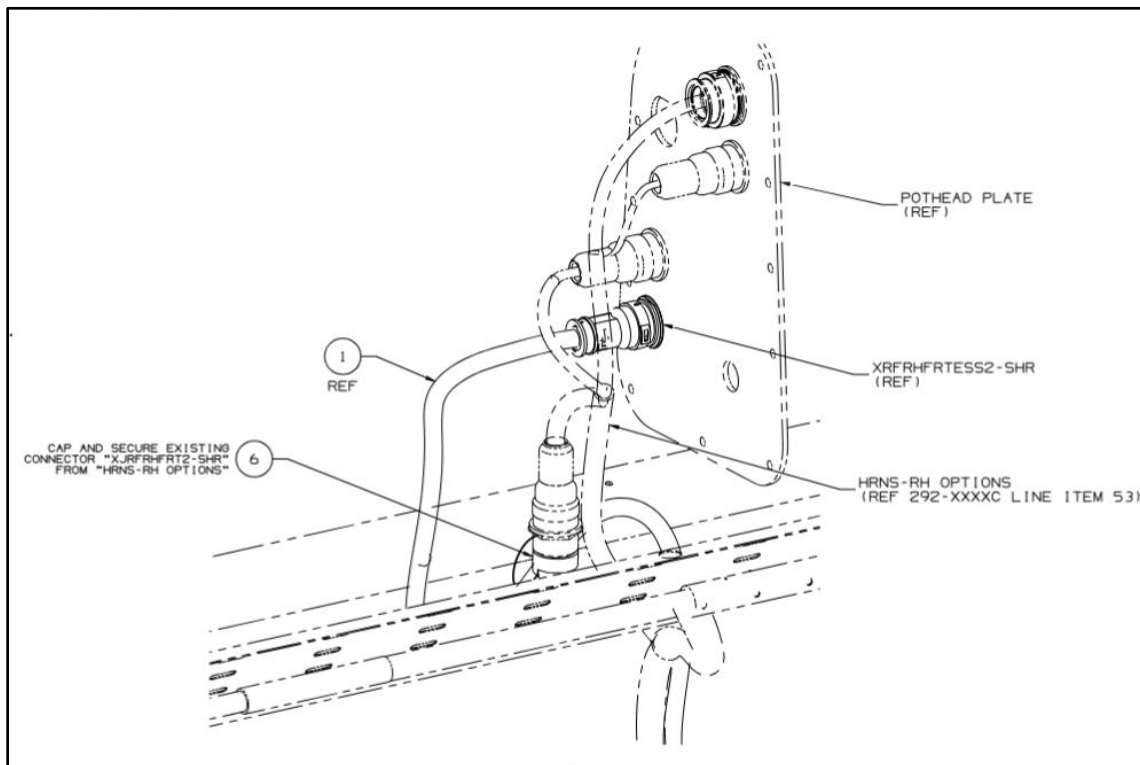

Figure 45: Pothead Interior Side
98. Route XRFRHFRT TO XSDS Jumper Harness (NF PN: 1147724) shown on Figure 45 from SDS Panel to pothead plate.